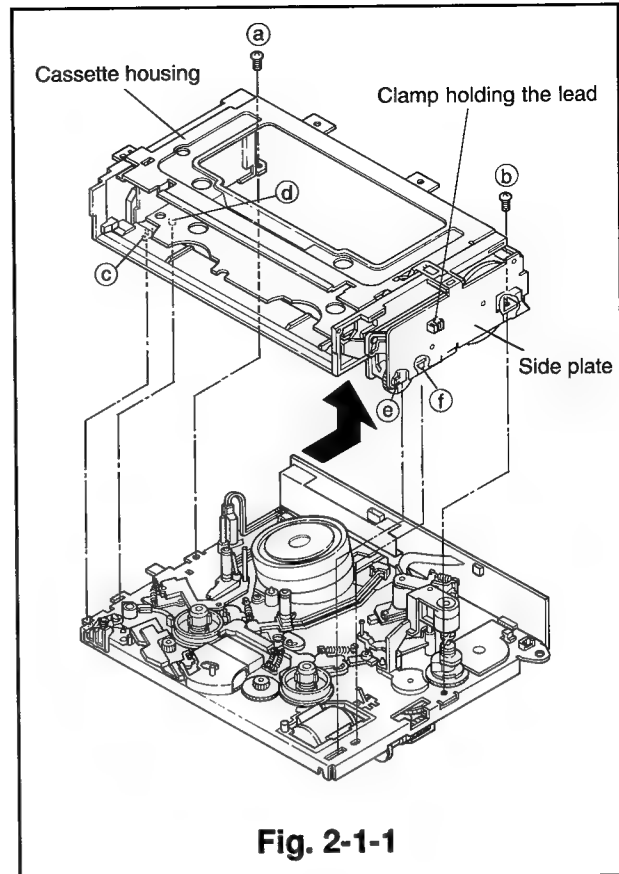
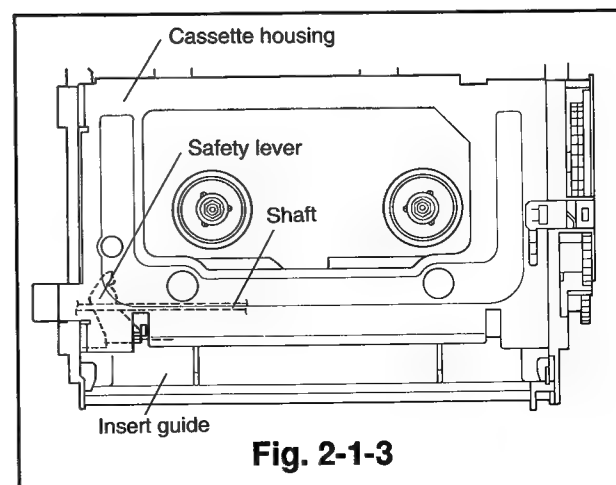

Fig. 2-1-1
Fig. 2-1-3
- ① Set the VCR to the eject mode.
- ② Remove the top cover and the front panel.
- ③ Unfasten the clamp holding the lead of the loading motor, which is attached to the side plate of the cassette housing. Unscrew the two cassette housing fastening screws (a) and (b). Slowly raise the cassette housing in the direction shown by the arrow. (Refer to Fig. 2-1-1.)
- ③ Slowly lower the cassette housing onto the main plate of the deck.
- ④ Make sure the record safety lever enters between the insert guide of the cassette housing and the shaft as shown in Fig. 2-1-3. Align the four points (c), (d), (e) and (f), located on the bottom of the housing with the matching holes in the deck. Secure the cassette housing on the deck with the two screws (a) and (b). (Refer to Fig. 2-1-1.)